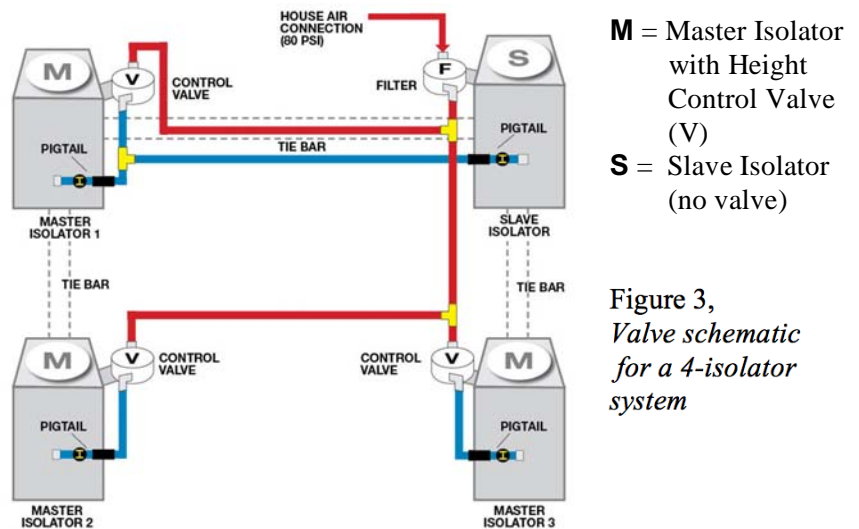

Figure 3,
**Step 5** Locate the three *height control valves* mounted on *isolators* as typically shown in figure above and referencing figures 3 earlier.